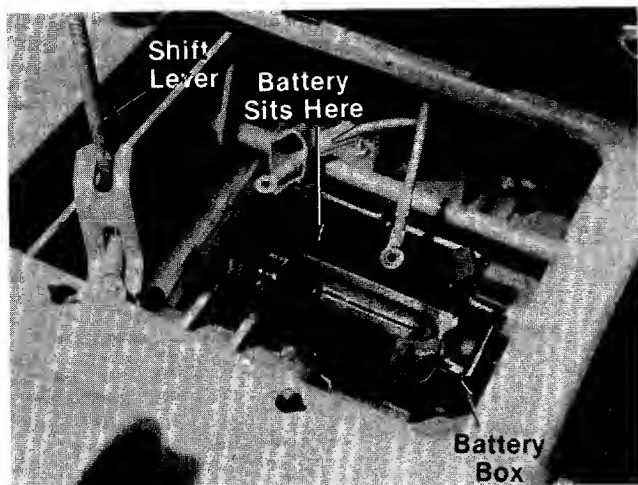

FIGURE 13.
4. Move the shift lever all the way to the left. See figure 13.
Figure 13 shows the battery box in which the battery will be mounted.
- B. Peel the paper off the foam strips to expose the adhesive backing. Press foam strips firmly into the corners of the battery box. See figure 13.